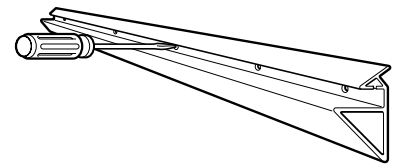

Figure 2
Step 3: Fasten the shelf bracket through center hole with one of the three screws provided. Tighten screw, allowing for slight rotation of the shelf bracket, as shown in **Figure 2**.